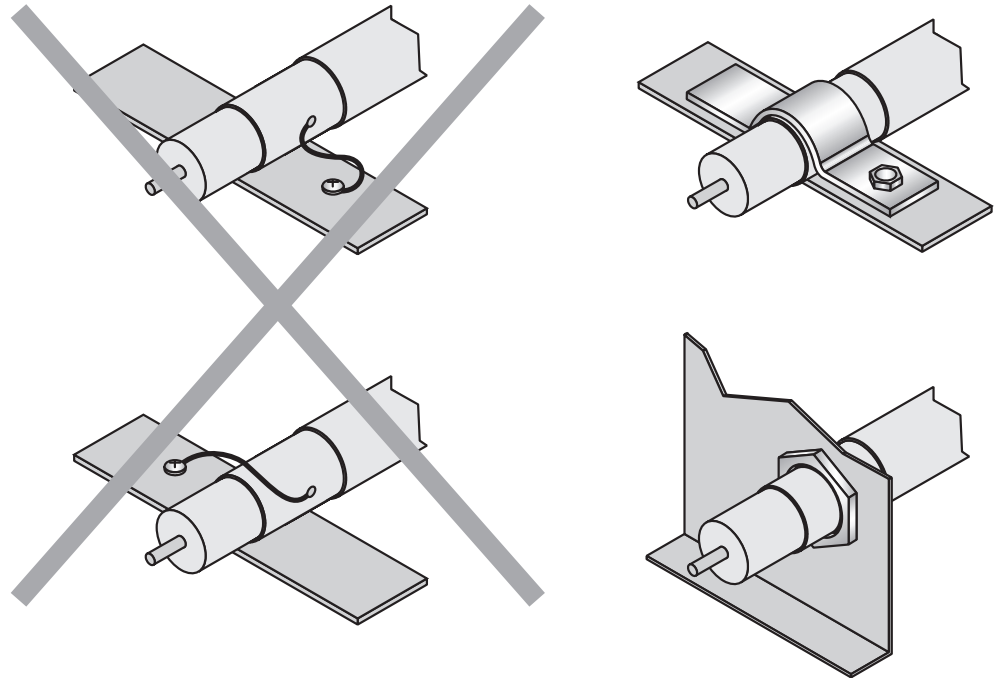

Figure 5: Make an extensive and low-impedance ground connection of the cable shield in the control cabinet.
- The cable shield in the control cabinet must be connected to a large area of the signal ground, see figure 5, page 27).